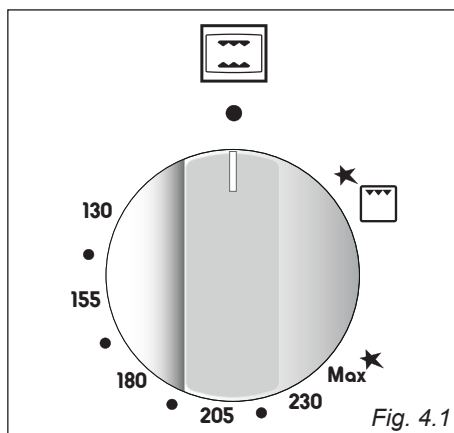

Fig. 4.1
The numbers **130** to **Max**★ printed on the control panel (fig. 4.1) indicate the increasing oven temperature value (see table 4.2).
2. Lightly press and turn the thermostat knob anti-clockwise (fig. 4.4) to max position **Max**★ (fig. 4.1). Press the knob firmly until the burner lights.
The numbers **130** to **Max★** printed on the control panel (fig. 4.1) indicate the increasing oven temperature value (see table 4.2).